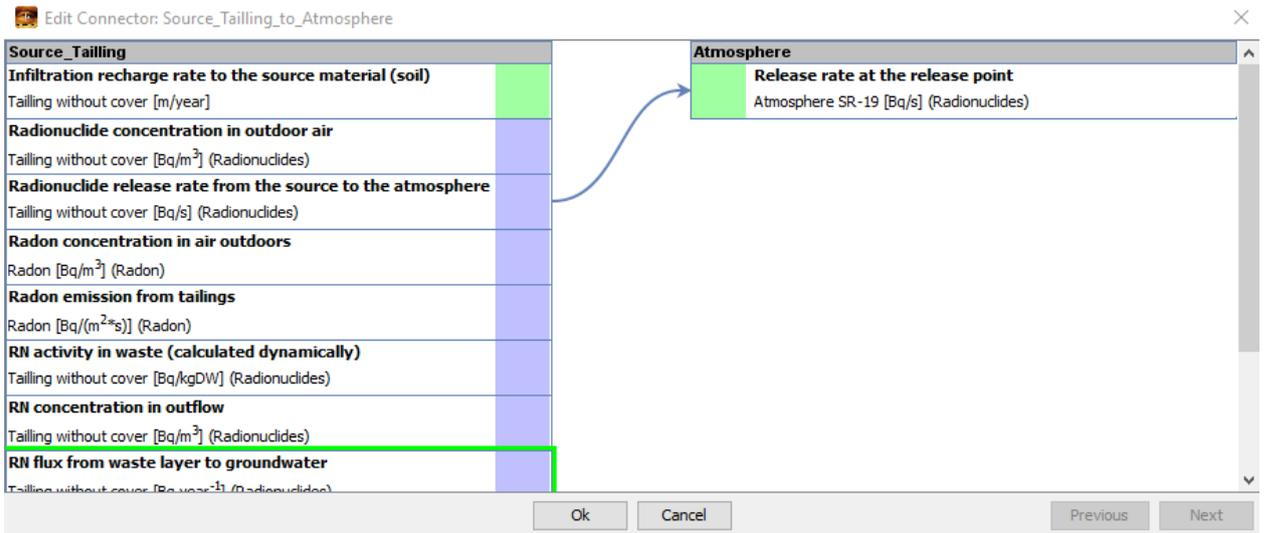

FIG 10. Using ‘*Edit Connector*’ window to set up data exchanges between modules
1. Double click on the “connector” block between ‘Tailings without cover’ and ‘Atmosphere SR-19’ modules. The ‘*Edit Connector*’ window will be opened allowing setting up data exchanges between these modules (FIG 10). The left column of window lists output parameter of the ‘Tailings without cover’ module, while the right column lists the input parameters of the ‘Atmosphere SR-19’ module. You have to match ‘output – input’ parameter pairs between these two columns. The specific parameter can be selected by right-clicking the particular table cell, and selecting the need parameter from the drop-down list that appears.